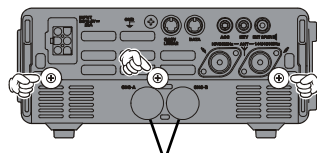

Figure 2 Plastic Cap
5. Remove the plastic cap, which is same label ("A" or "B") of the battery compartment which is the **FNB-78** installed, from the to bottom cover, before turning the plastic cap so that the small project of the cap is aligned with the slot of the bottom cover (Figure 2).